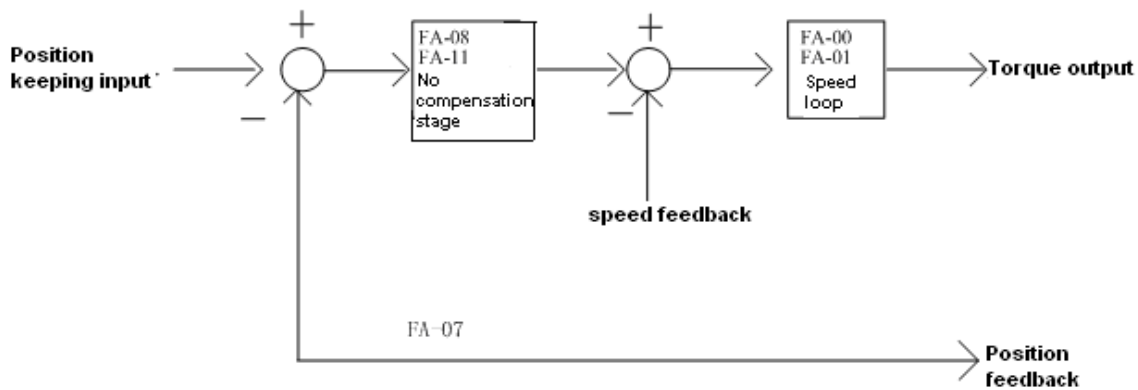

Fig. 6.16: Working principle diagram for starting without load compensation
- 1) Working Principle: refer to Figure 6.16. When brake is released, through the position feedback from Sine/Cosine PG card, it calculates the necessary torque of the motor to remain the invariableness of traction machine position under the current load, and it gives corresponding torque at once and make the traction sheave have less moving to achieve comfortable starting.